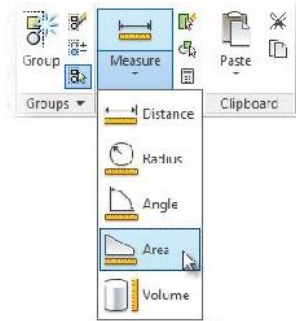

FIGURE 9.22: Starting the Measure > Area command
3. From the Home tab > Utilities panel, click the down arrow under the Measure button, and then select the Area option, as shown in Figure 9.22.